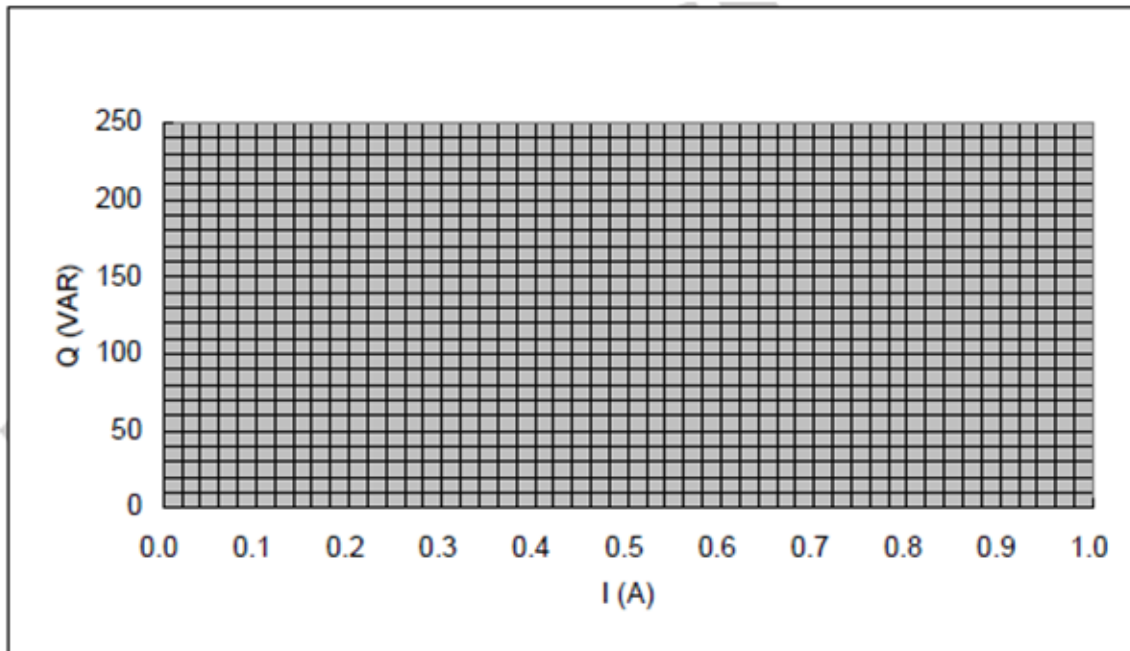

Fig. 1-4-10 The  $Q$  vs  $I$  curve (inductive load)
12. Using the results of Table 1-4-2, plot the P vs I curve on the graph of Fig. 1-4-10.